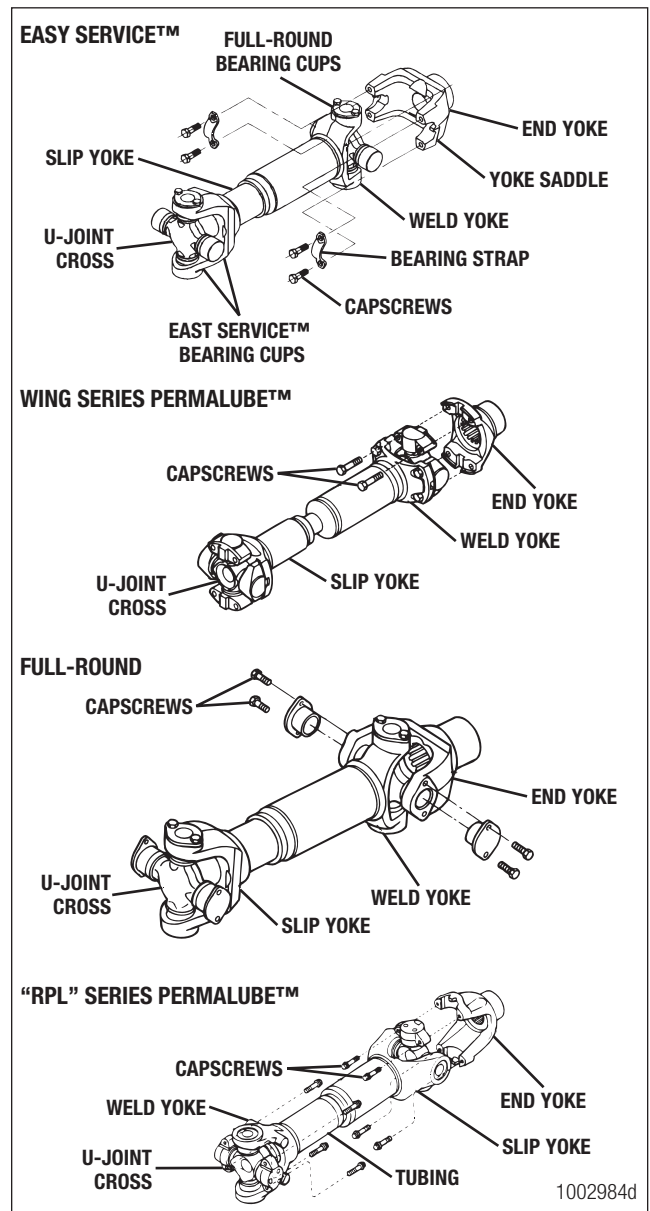

Figure 7.1
5. Disconnect the driveline universal joint from the pinion input yoke or flange on the carrier. Figure 7.1.